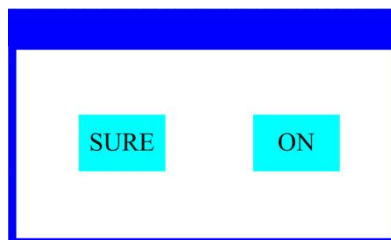

Figure 5 Dialog of confirm
- The determination of important Boolean parameters will be passed, and the confirmation window will be set, as shown in Figure 5 below. Chick 'sure' to confirm.